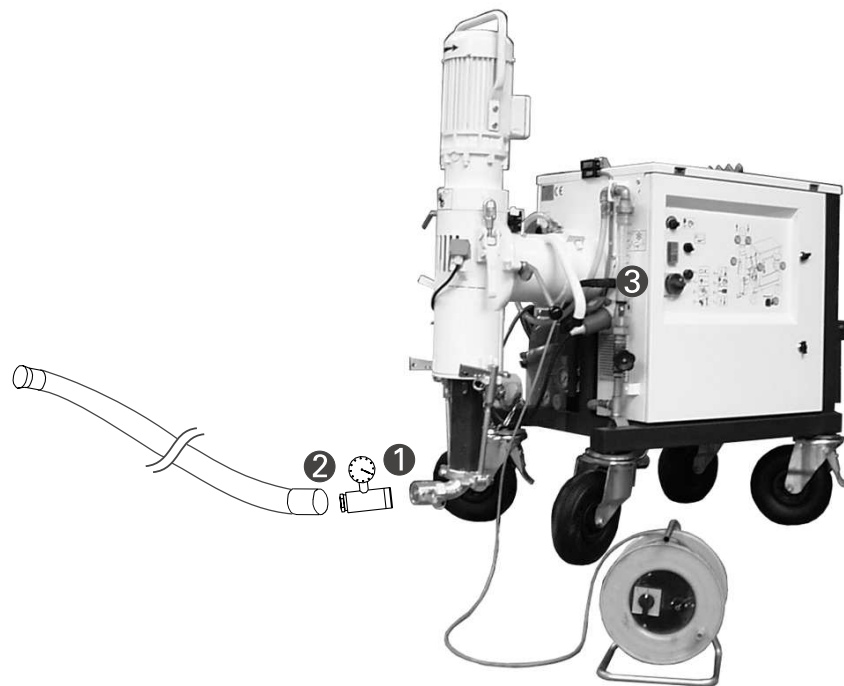

Fig. 17: Connections when using remote-control cable drum
- Couple the mortar hose after the hose pressure gauge or the pump end piece (figs. 17, **1**, **2**, p. 36). To couple mortar hoses $\varnothing=40$ or $\varnothing=50$
- Connect control cable of cable drum to flange socket (fig. 17, ③)